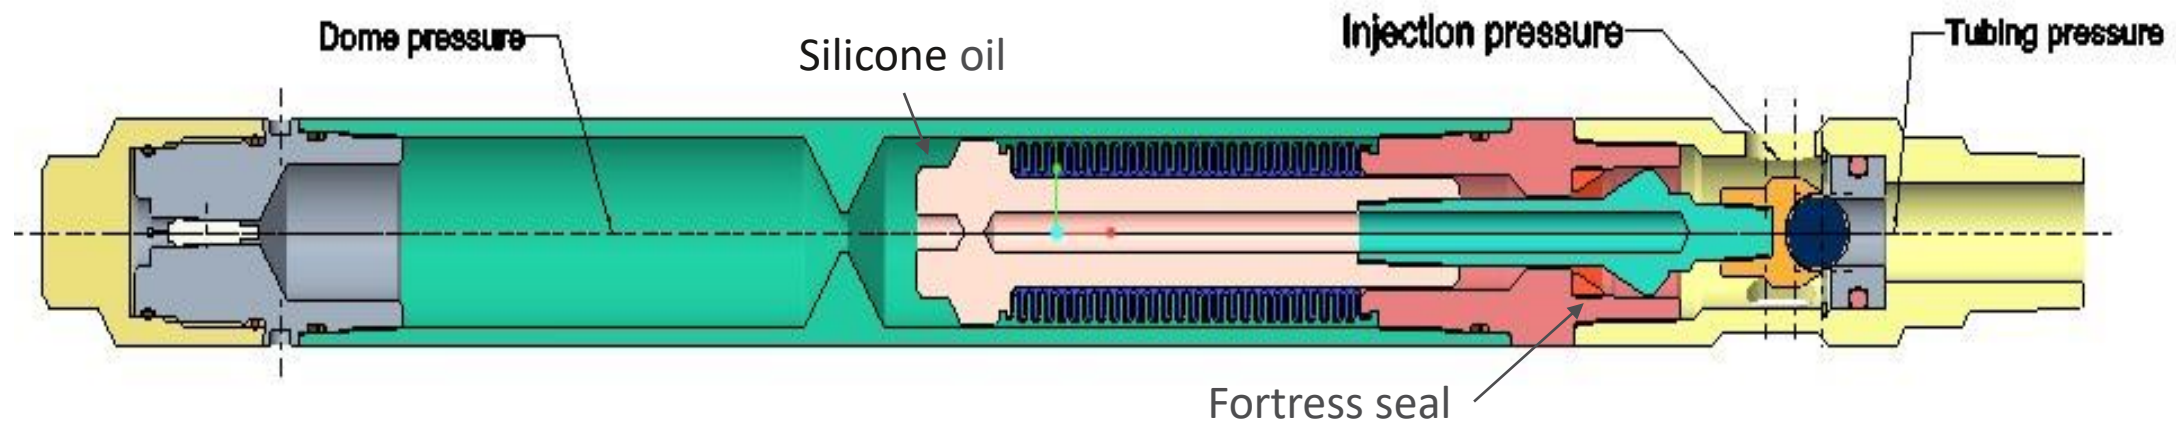

Figure 8
- “*FORTRESS™*”- seal is placed outside bellow and engages when valve is in fully open position. See figure 8 below showing valve in closed position.